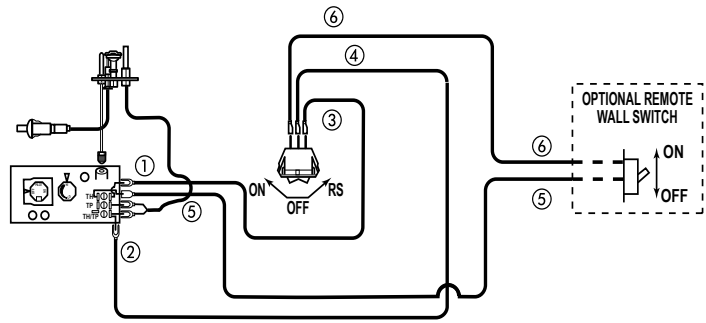

Figure 27 -
A remote wall switch and up to fifteen (15) feet of 18 Ga. wire may be used with this appliance. Attach the wall switch in a junction box at the desired location on the wall. *Figure 27*. Do not extend beyond the wall switch wire length provided.